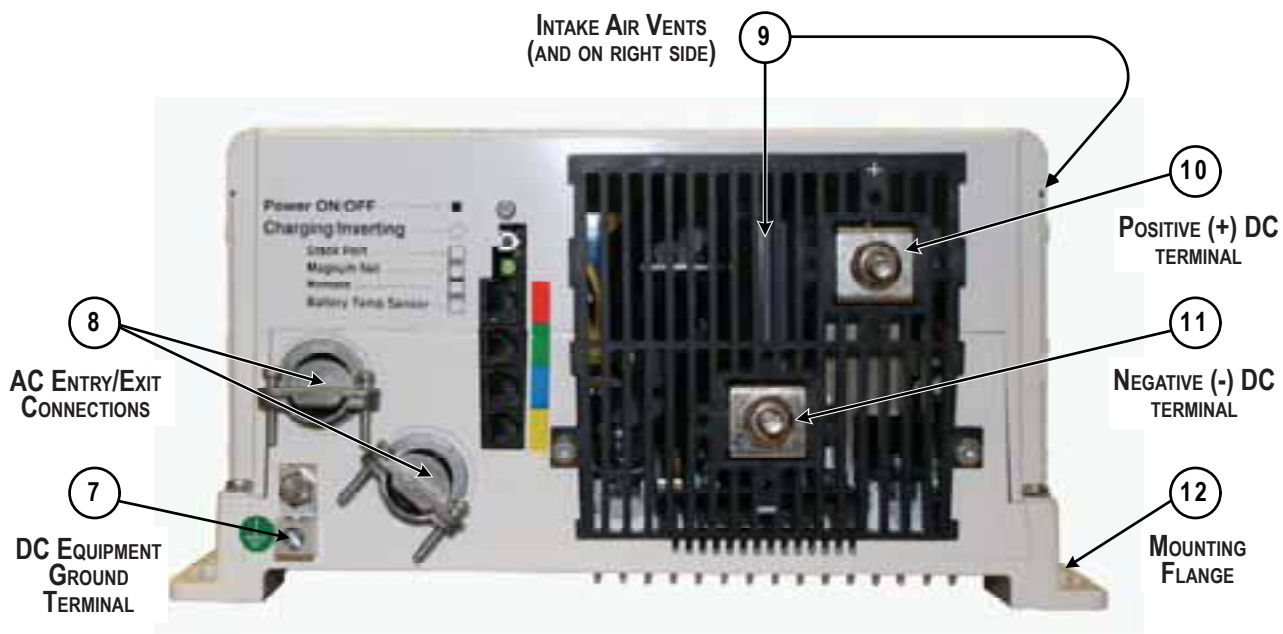
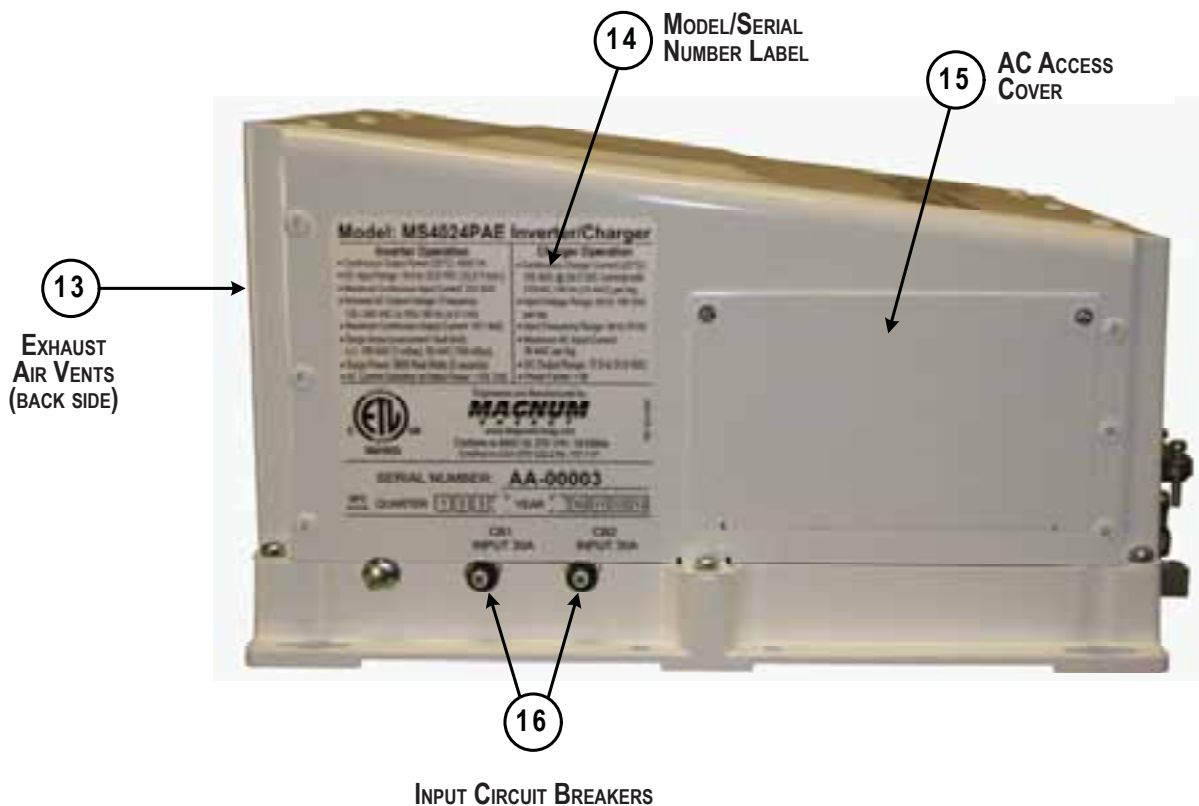

Figure 1-2, Electrical Connection Points
Figure 1-3, Left Side Features
The left side of the MS-PAE Series is equipped with the following features (refer to figure 1-3):
Ventilation - In order for the inverter to provide full output power and avoid overtemperature fault conditions; do not cover or block the inverters ventilation openings or install this inverter in an area with limited airflow. The inverter uses two internal fans to provide forced air cooling, these fans pull in air through the intake vents (see item 9 in figure 1-2) and blow out air through the exhaust vents (see item 13 in figure 1-3). Allow at the minimum, an airspace clearance of 6" at the intake and exhaust vents and 3" everywhere else to provide adequate ventilation.